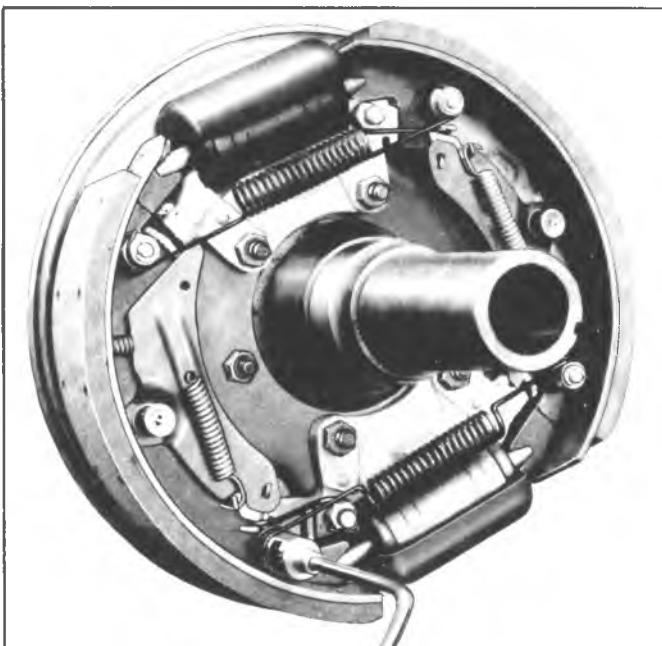

Fig. 80--Removing Pull Pack Spring with Tool
3. Using Tool J-22348, remove the brake shoe pull back springs (fig. 80).